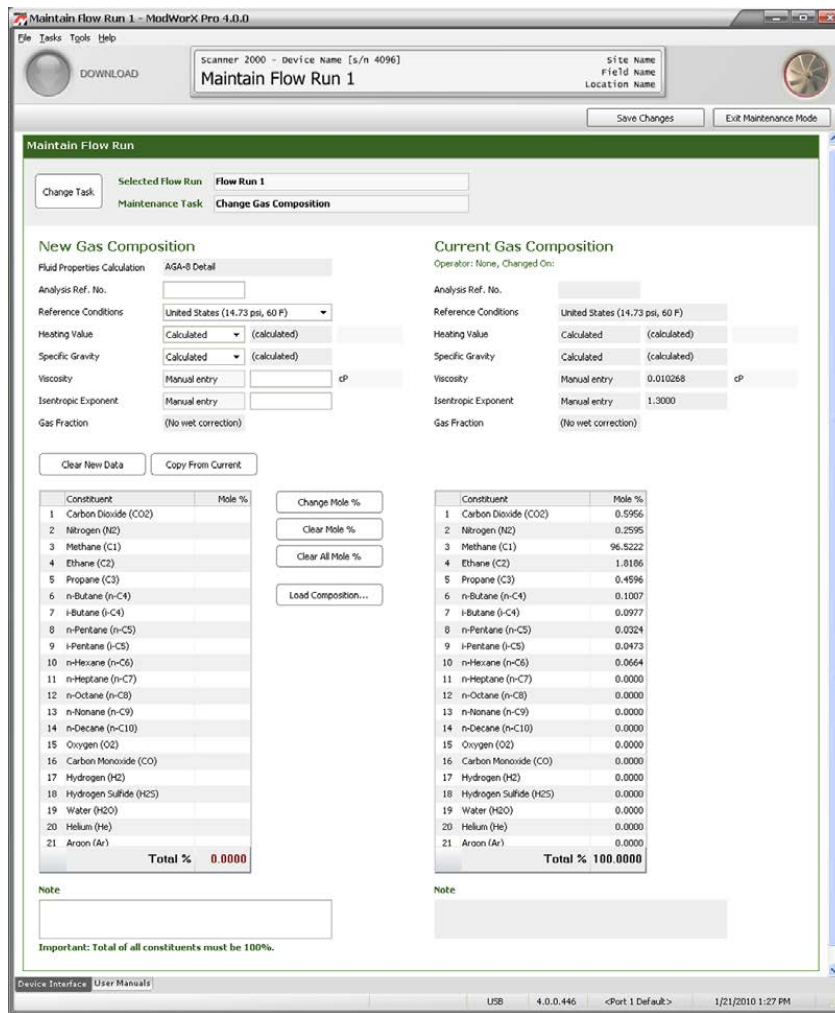

Figure 12.3
3. Click **OK** to proceed. The Maintain Flow Run screen will appear (Figure 12.3).
- b. Click **OK** to save your selections and return to the Maintain Flow Run screen (Figure 12.3, page 164).